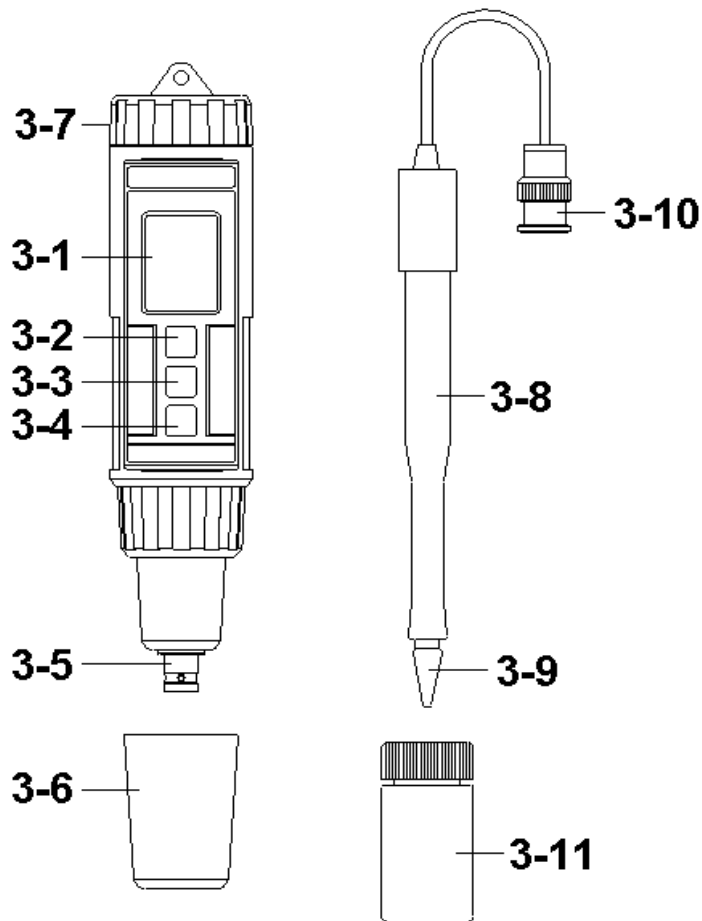

Fig. 1
- 1)Connect the pH electrode plug (3-10, Fig. 1) to the BNC socket (3-5, Fig. 1) and place electrode into pH 7.00 buffer solution.
- 2)Power on the instrument by pressing the " Power button " (3-2, Fig. 1).
- 3)Press the " Hold button " (3-3, Fig. 1) once. the display will show the " HOLD " symbol. Press the " ▼ button " (3-3, Fig. 1) once, the display will show following screen in sequence.
- * When the LCD show the screen 2, it allow the user to adjust another calibration value precisely (for example 7.01, 6.99...) by pressing the " ▲ button " (3-2, Fig. 1) , " ▼ button " (3-4, Fig. 1)'
- * After calibration, the " Electrode sensing head " (3-9, Fig. 1) should insert into the " Protection bottle " (3-11, Fig. 1).
- 1) Connect the pH electrode plug (3-10, Fig. 1) to the BNC socket (3-5, Fig. 1) and place electrode into the measured solution.
- 2) Power on the meter by pressing the " Power button " (3-2, Fig. 1).
** After calibration, the " Electrode sensing head " (3-9, Fig. 1) should insert into the " Protection bottle " (3-11, Fig. 1).*
During the measurement, press the " Hold button " (3-3, Fig. 1) once will hold the measured value & the LCD will display a " HOLD " symbol.
During the measurement, press the " Display reverse button " (3-4, Fig. 1) once will reverse the display direction for the user convenience.
2) To replace the battery, rotate and remove the " Battery Cover " (3-7, Fig. 1), take out the old batteries, install new batteries :